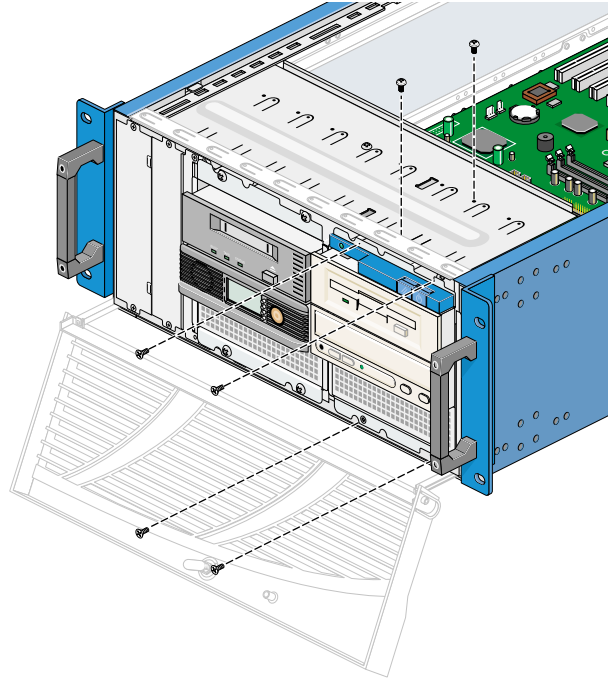

Figure 5-8 Securing a Drive Cage in a Node
5. Screw in the two screws that attach the drive cage to the top of the node. Screw in the four screws (two on top flange, two on bottom flange) that attach the front of the drive cage to the front of the node chassis. Snap the top plastic panel back onto the drive cage to cover the screws. See Figure 5-8.